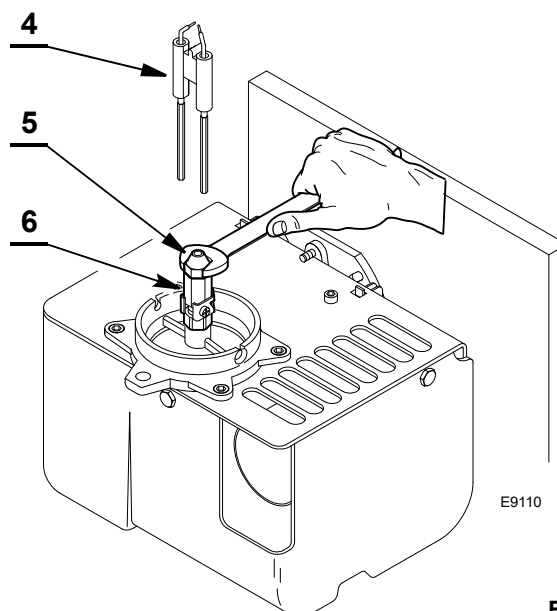

Fig. 21
- Remove the electrodes assembly 4)(Fig. 21) from the nozzle holder 6) after loosening its fixing screw (A), (Fig. 17).
- Replace the nozzle 5)(Fig. 21) and screw the new one on properly, holding it as illustrated in figure.